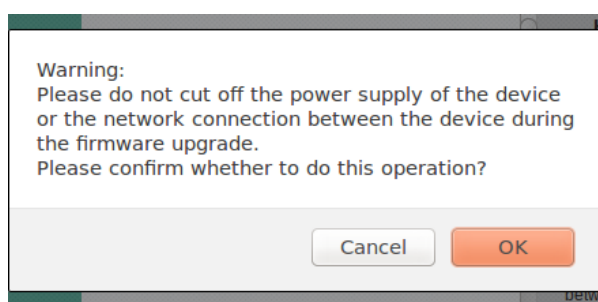

Figure 3-28 Warning message for device system upgrade
- **Device upgrade:** This feature is based on a system upgrade of the software for the CAN converter. Users can obtain the upgrade program for the CAN converter through email or our company's website. Please pay attention to the matching of device model and version, as mismatched upgrade programs will result in upgrade failure. After obtaining the upgrade program, click the "Browse" button to select the upgrade program, and then click the "OK" button. A prompt box will pop up, as shown in Figure 3-28. Click "OK" to jump to the screen. Wait for the progress bar in the screen to be read, and the CAN converter software upgrade will be completed.